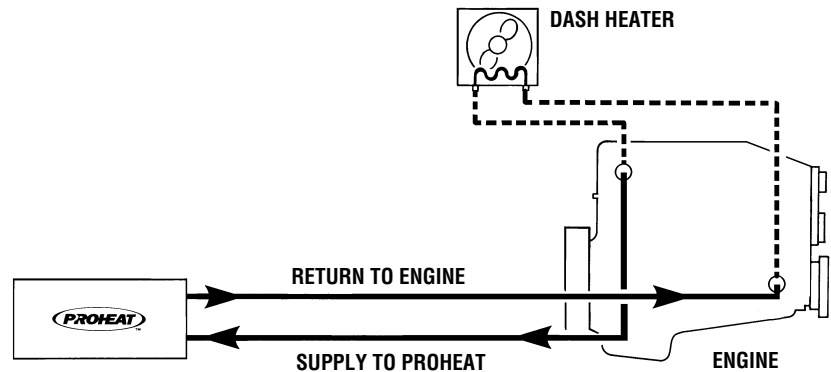
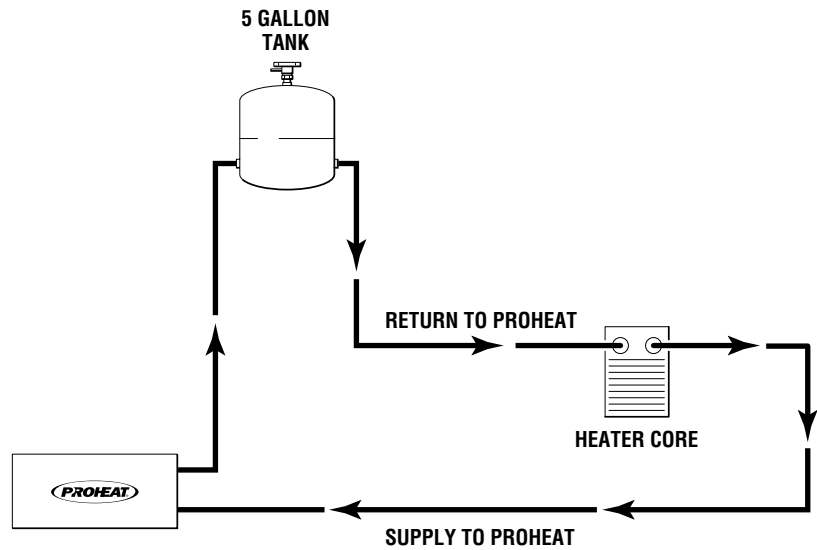

Figure 2-21. Engine Heat or Supplemental Heat.
Figure 2-24. Cargo Heat only.
3. Plumb the system as per figure 2-21 or figure 2-24.